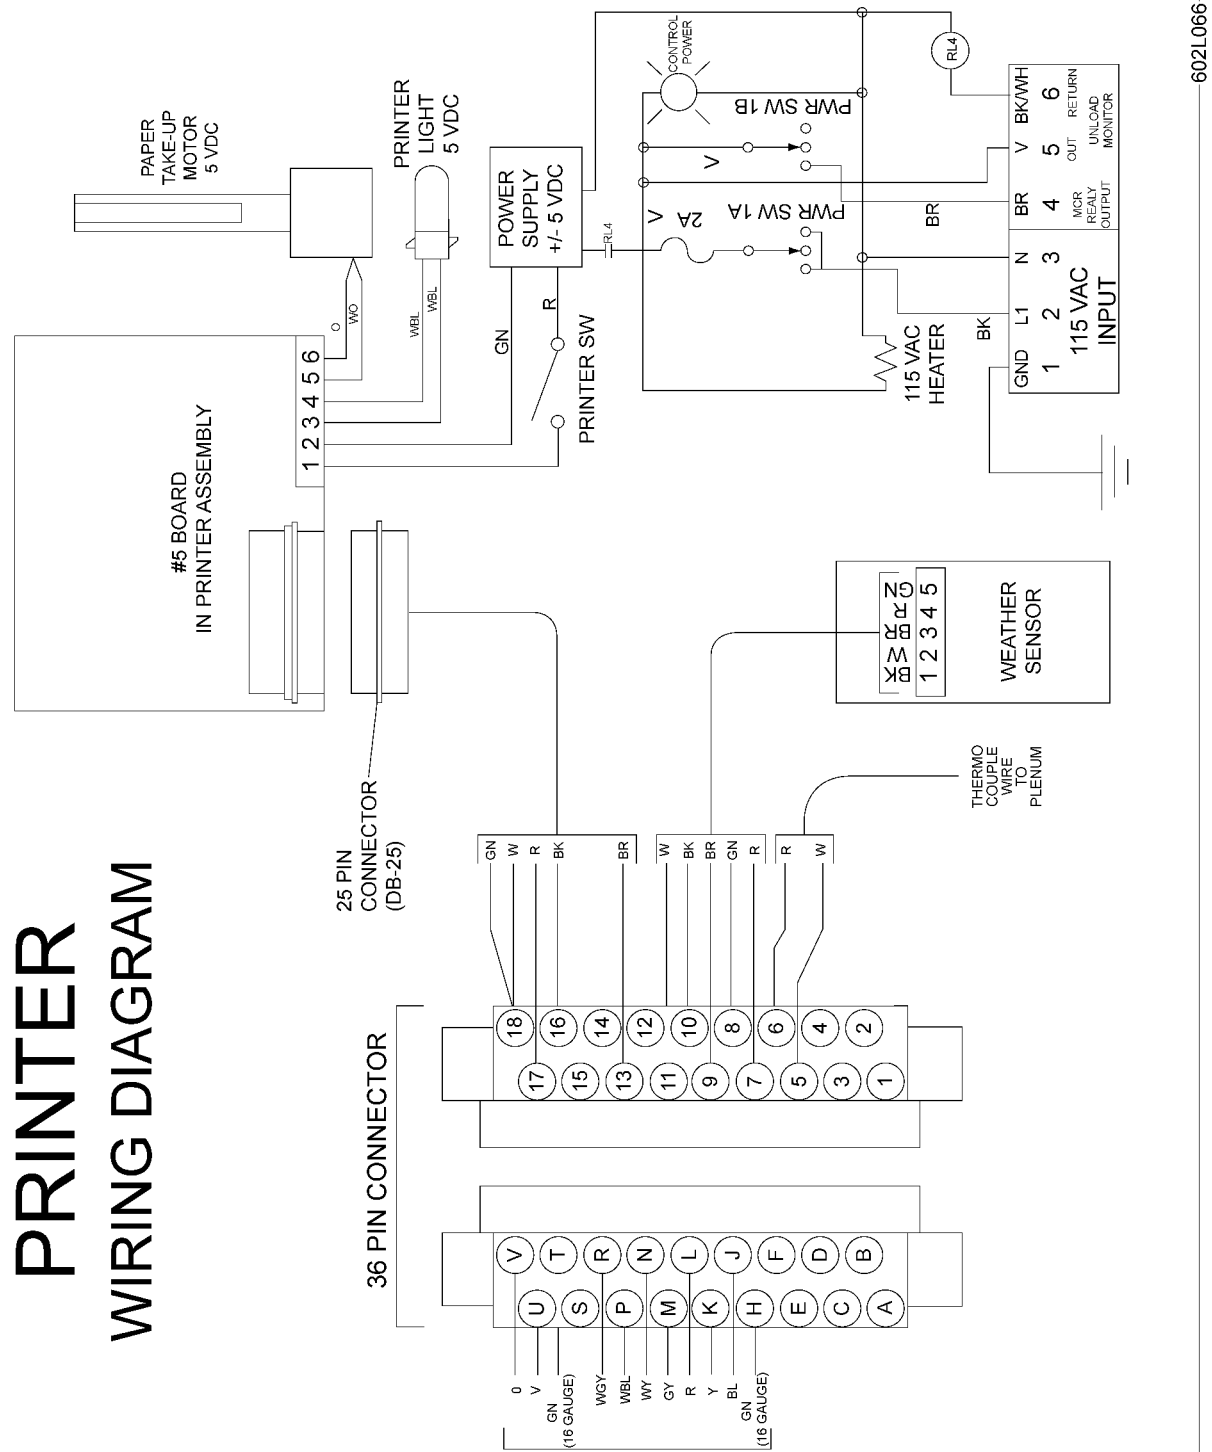

Figure 6A
1. Disconnect all power (AC).
2. Remove the hole cover by removing the six (6) #8-32 screws holding it in.
6. Connect the wires coming from the green card connector to the black card connector (1EL0854). There is a total of eleven (11) wires. Refer to decal 602L065 mounted on the Calc-U-Dri door and Figure 6A on Page 25. Note colors and pin letters. This must be done correctly.
7. Mount the black card connector using two (2) 4 x 40 5/8" bolts, 4 x 40 nuts and star washer. The numbered side of this connector will be visible when mounted correctly.
8. Connect the printer control cable to the black card connector. This cable will have a 25 pin connector on one end. Refer to Figure 6A on Page 25.
9. Install the 5 volt power supply using two (2) 8 x 32 x 1/2" bolts. The locations is the upper right of the back panel. The red and green wires will be coming out of the left edge of the supply. Attach the violet and white wires to the 2 post terminal 2" to the left of the supply. Violet on the "V" terminal and white on the "W" terminal.
10. Attach the printer to the front panel with the five (5) #8-32 screws and nuts.
13. To mount the plenum thermocouple, cut a hole in the plenum 1-1/4" diameter within 50' of the control box. Secure the liquid-tite and thermocouple using conduit clamps. Wire the sensor into the back connector pin #5 to white, pin #6 to red. (See Figure 6A on Page 25.)
14. To mount the weather sensor, feed the cable through the 1-3/32" diameter hole in the bottom of the control box and secure with the electrical screw bushing. Have the sensor on the outside of the control box. Wire the cable to the black 36 pin connector, pins 7 through 11. (See Figure 6A on Page 25.)